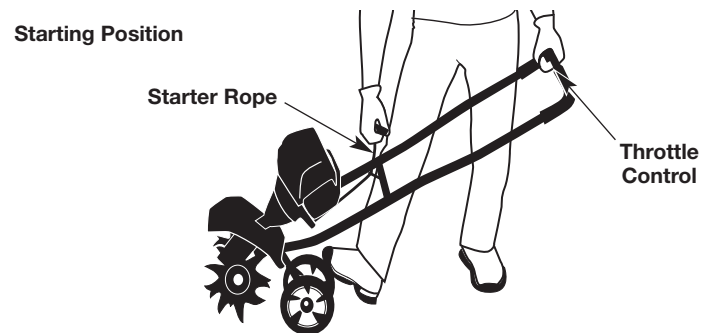

Fig. 6
WARNING: Avoid accidental starting. Make sure you are in the starting position when pulling the starter rope (Fig. 6). To avoid serious injury, the operator and unit must be in a stable position while starting.
5. Stand in the starting position (Fig. 6). Hold the handlebar and squeeze the throttle control with one hand. Hold the starter rope with the other hand. Use one foot to hold the wheels in place.
NOTE: Always tilt the unit back slightly to bring the tines off the ground when starting the unit (Fig. 6).